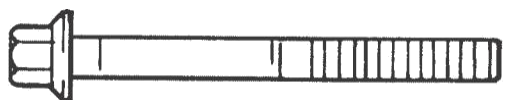

Figure 11-8. Connecting Rod Bolts.
- Three different types of connecting rod bolts have been used in production, and each has a different specific torque value. See Figures 11-8 and 11-9.